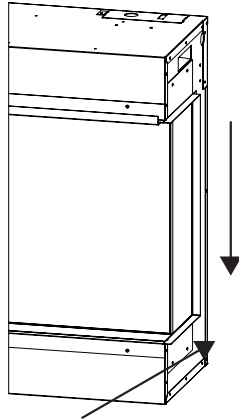

Fig 1.2.
5. Push the glass back as far as it will go to make installation of the front glass easier. See Figure 1.2.